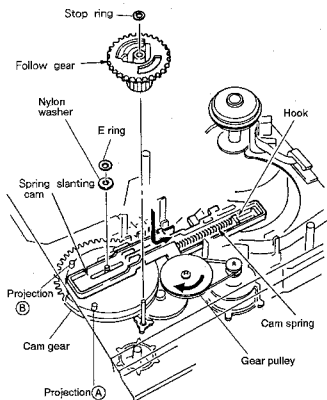

Fig. 11
- ③ Install a nylon washer and an E ring, and hang the cam spring on the hook. (Fig.11)
Note: The cam gear and spring slanting cam as shown in Fig.11 are positioned when installing the slide cam.
- ③ Install the stop ring. (Fig.11)
- ① Set the position of projection (A) and (B) of the cam gear by turning the gear pulley clockwise by hand as shown in Fig. 11.